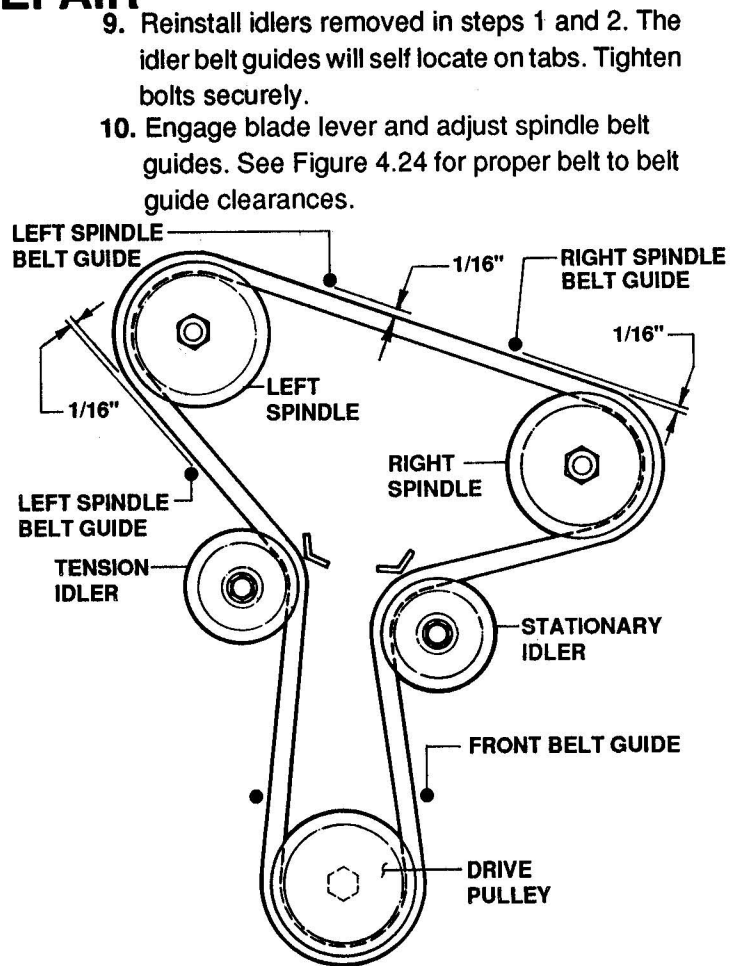

FIGURE 4.24
10. Engage blade lever and adjust spindle belt guides. See Figure 4.24 for proper belt to belt guide clearances.